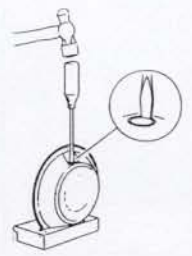

Fig.5
5. Using the fitting as a template, mark the fixing positions on the mounting surface, if mounting on the wall, place the fitting so that 'TOP' is at the top. Ensure that they are clear of any sub-surface wiring or obstructions (Fig 5). Drill appropriate holes.